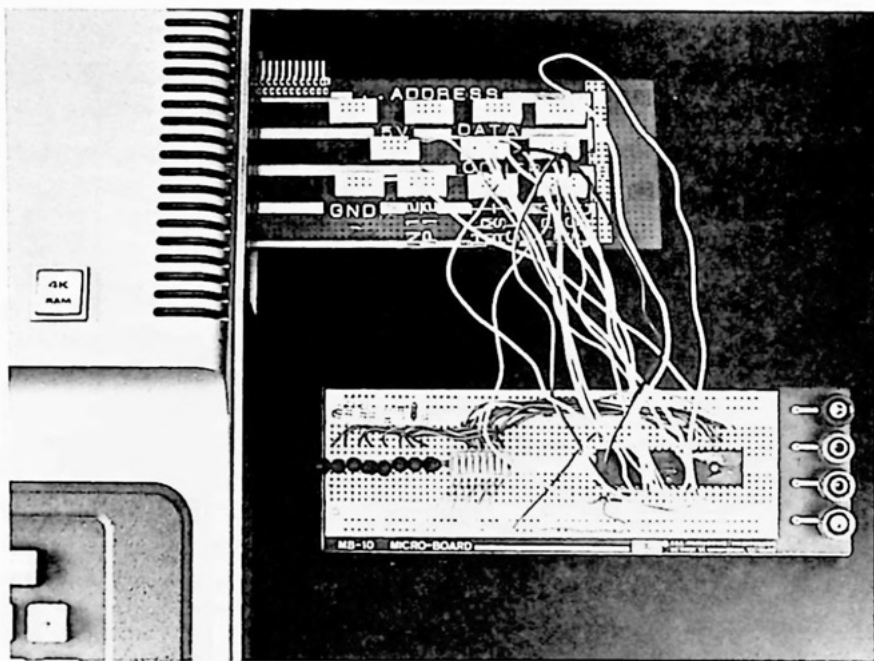

Figure 6-7
less breadboard and connect hook-up wire to the expansion connector interface breadboard as shown in Fig. 6-7. We suggest that you remove the expansion connector breadboard from the computer while making connections to it. This will help to prevent damage to the breadboard and the internal expansion connector of the computer. Furthermore, you must use caution when handling the PIA since it is a MOS device and sensitive to static electricity. Make sure you are grounded with a ground strap, and avoid touching the PIA pins. Also, when not using the PIA, be sure to place it in conductive foam or an antistatic tube.
Step 2 — Make sure the computer power is turned off, and carefully insert the expansion connector interface breadboard into the expansion connector on the right side of the computer (see Fig. 6-7).